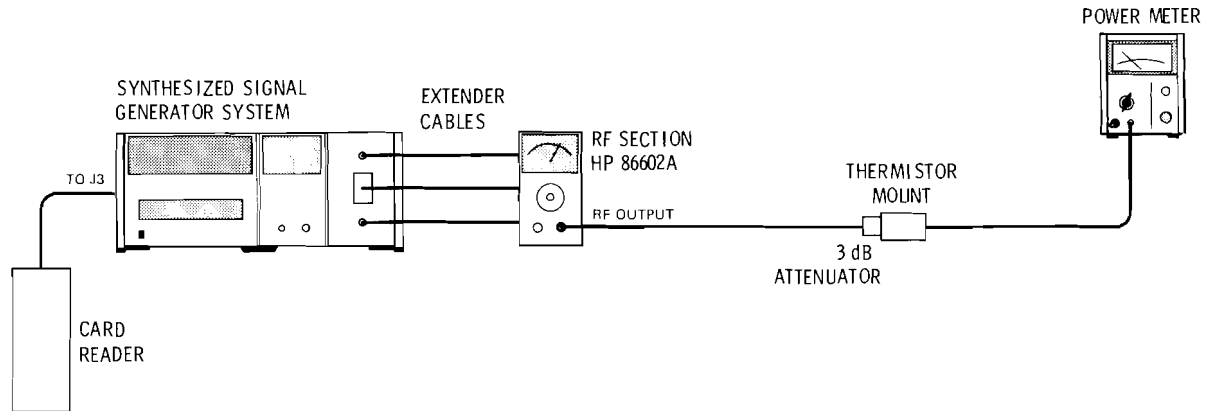

Figure 5-2. 1 dB Step Attenuator Adjustment Test Setup
1. Connect equipment as illustrated in Figure 5-2.